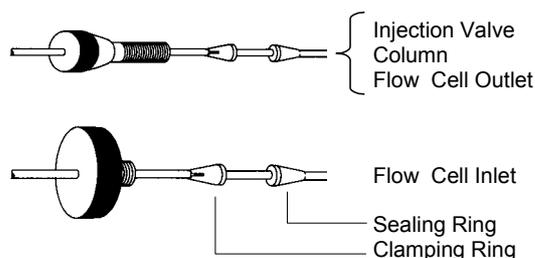

Fig. 6 *DYNASEAL Capillary connections*
6. Push the bushing, the clamping ring, and the sealing ring onto the capillary. Please take care on the sequence and orientation of fittings, see Fig. 6 „DYNASEAL Capillary connections“.
9. Connect the flow cell outlet (6) using a capillary or teflon tube (ID > 0,5 mm) to a waste bottle.